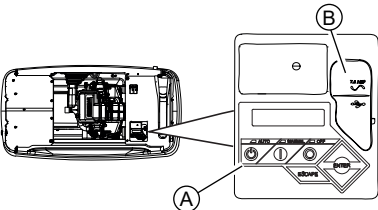

Figure 3-7. Generator Control Panel
See Figure 3-7. 14–26 kW ge
See Figure 3-7. The control panel interface (A) is located under the enclosure lid. Verify both left and right side locks are unlocked before attempting to lift lid of enclosure. Open lid as directed in Opening the Lid.